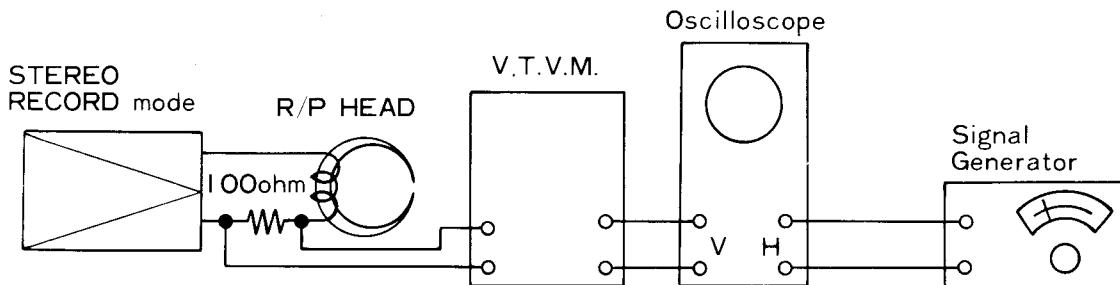

Fig. 15
1. ADJUSTMENTS OF BIAS CURRENT AND BIAS OSCILLATING FREQUENCY (Refer to Fig. 15)